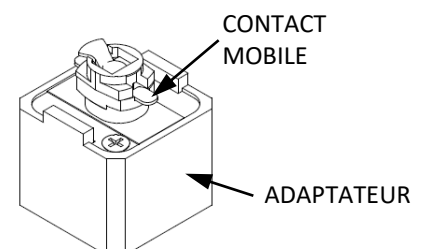

Fig. 3
1. Raise contact for upper circuit using a flat blade screwdriver until contact stops against plastic. Position MOVABLE contact to desired position. Leave contact in lower position for lower circuit of two circuit track (FIG. 3).